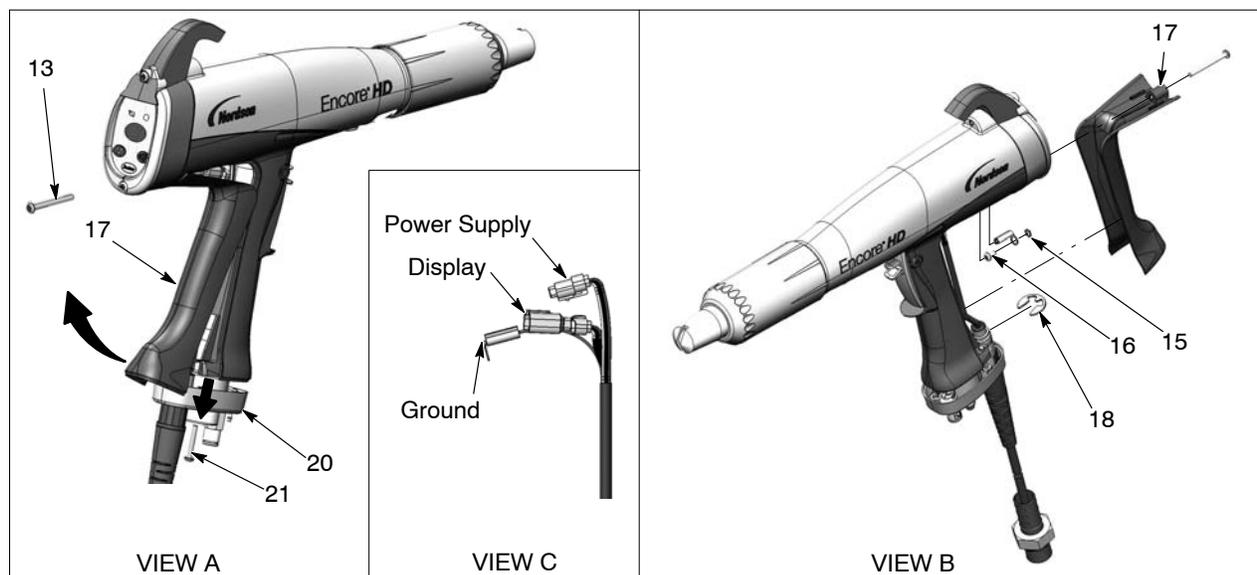

Figure 5-7 Cable Replacement
2. See Figure 5-7, View A. Remove the two M3 x 20 screws (21) securing the handle base (20) to the handle.
3. Remove the lower M3 x 35 screw (13) from the display module.
4. Pull the base away from the handle enough to free the bottom edge of the ground pad (17) from the base.
6. See Figure 5-7, View B. Remove the M3 x 8 screw, lock washer (16, 15), and ground terminal from the ground pad.
7. Remove the retaining ring (18) from the cable.
8. See Figure 5-7, View C. Pull the cable connectors out of the handle. Insert a small flat-bladed screw driver in the slots of the power supply and display connectors to release the catch and disconnect them.
1. See Figure 5-7. Feed a new cable through the handle base, then install the retaining ring (18) on the cable to hold it in place.
3. Connect the cable terminal to the ground pad (17) with the M3 x 6 screw and lock washer (16, 15).
6. Push the handle base (20) up against the handle and ground pad, and tighten securely the two M3 x 20 screws (21) in the base.
7. Re-install the M3 x 35 screw (13) in the bottom of the display module.